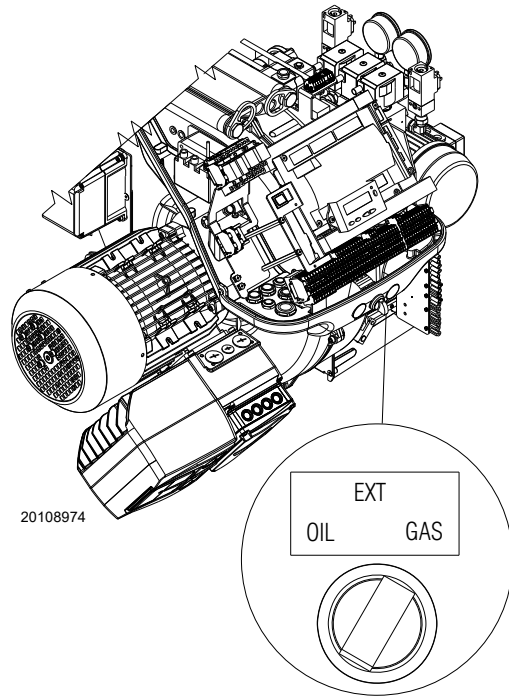

Fig. 42
- 1 with the “OIL-EXT-GAS” selector (Fig. 42);